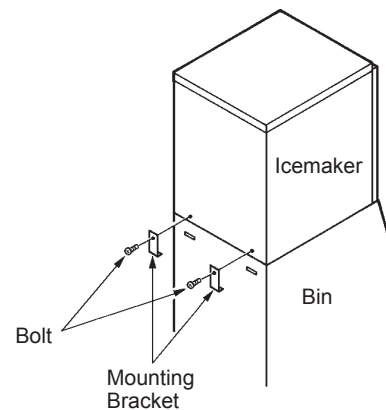

Fig. 4
- 4) Secure the icemaker to the Storage Bin, by using the two mounting brackets and two bolts provided. See Fig. 4.